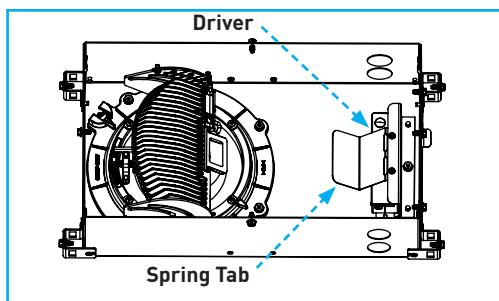

Fig.56
- C. Carefully pull on driver wiring harness to release the driver from the spring tab. Remove driver through housing aperture. (*Fig.56*).